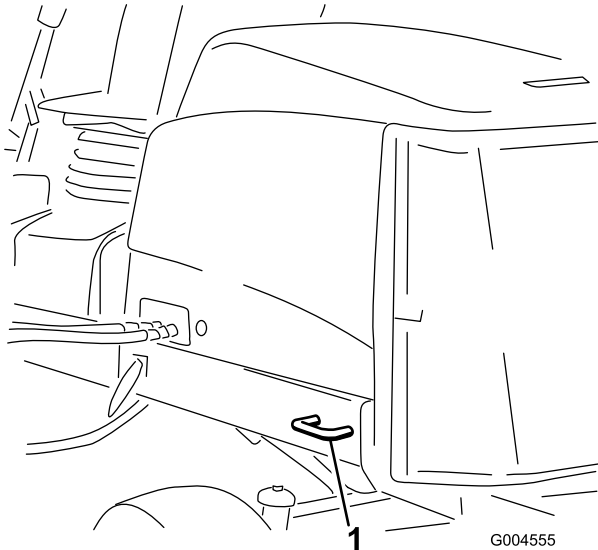

Figure 45
- Rear—each side of the machine on the rear frame (Figure 45).